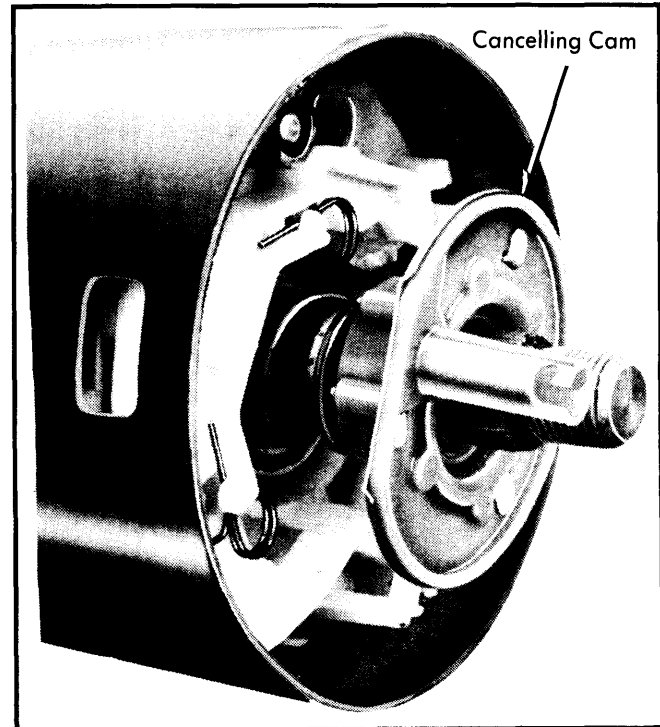

Fig. 7 Directional Signal Switch Cancelling Cam Position
12) Install thrust washer, upper bearing preload spring, and cancelling cam on steering shaft. Position cancelling cam as shown. See Fig. 7. Place directional signal switch in neutral position and install hazard warning switch knob.